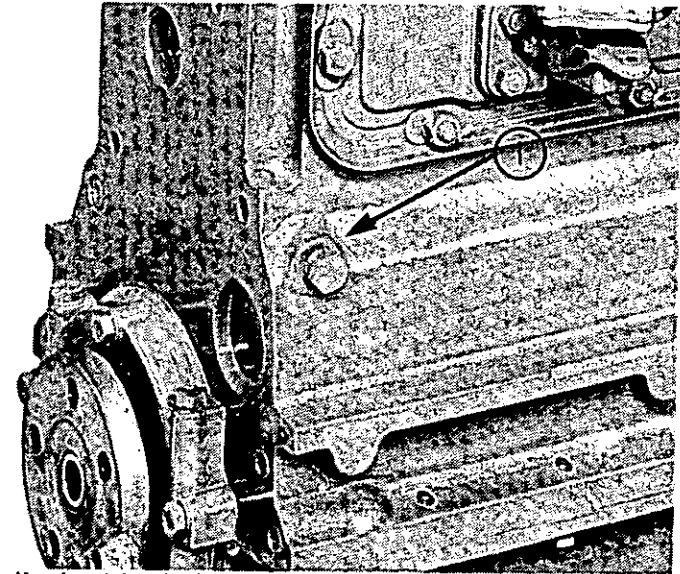

Fig. 6 Cylinder block drain plug
- 3** Remove the drain plug from either side of the cylinder block (see 1, fig. 6) drain the engine. Ensure that the drain hole does not have any restriction.